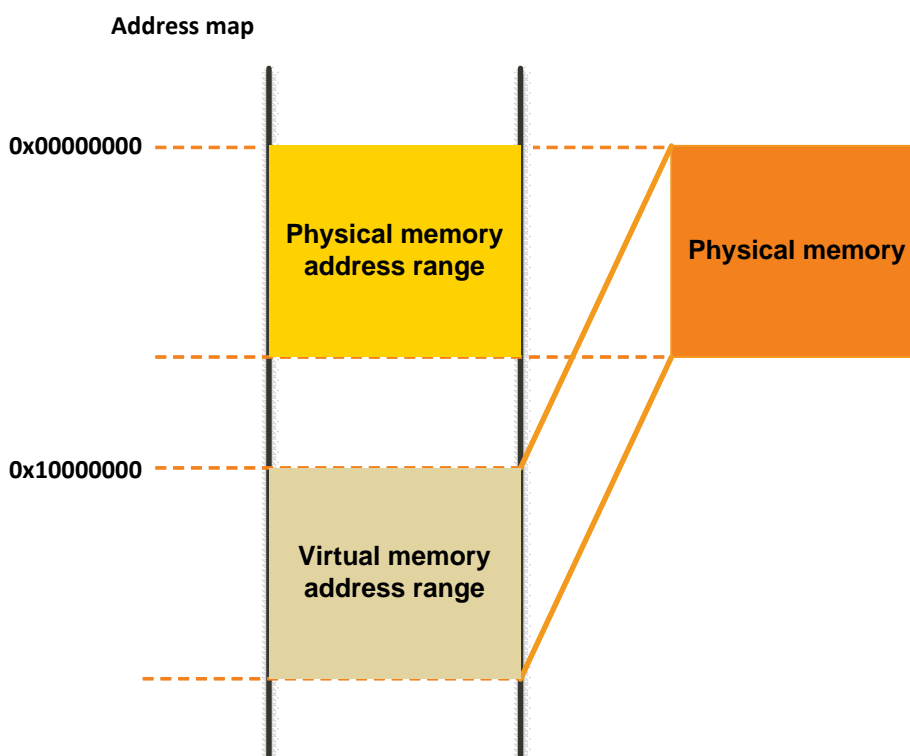

Figure 2.5-1. MT2523x virtual memory mapping
The virtual memory on the MT2523x is provided for cacheable memory and is implemented based on the memory mapping mechanism of ARM Cortex-M4. The virtual address range from 0x10000000 to 0x14000000 is mapped to the PSRAM address range from 0x00000000 to 0x04000000, as shown in Figure 2.5-1. The virtual memory region (0x10000000 ~ 0x14000000) is used as cacheable memory. All read-write (RW) data is stored in this region by default.